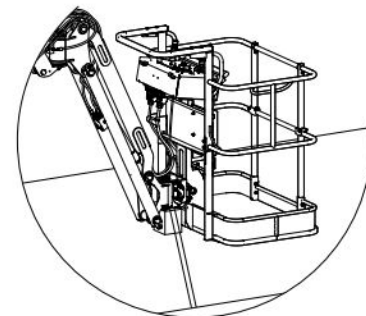

Figure 24 Platform tie-down
7. Place block underneath platform rotator and gently lower rotator onto block and secure in place. Strap must be secured underneath hoses and cables to avoid damage to MEWP (refer to Figure 24). Do not use excessive downward force when securing platform.